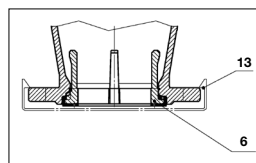

Figure 1
- Remove protective cover (13) prior to attaching to the pipeline (Fig. 1).
- The sealing ring (6) is pressed in at the factory and is used as a sealing for the pipeline flange. No additional seals are required. (Fig. 1).